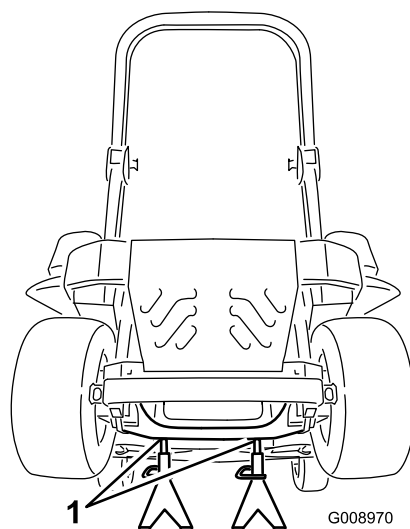

Figure 104
3. Raise the machine and support it with jack stands (Figure 104).
9. Remove the jack stands and lower the machine (Figure 104).